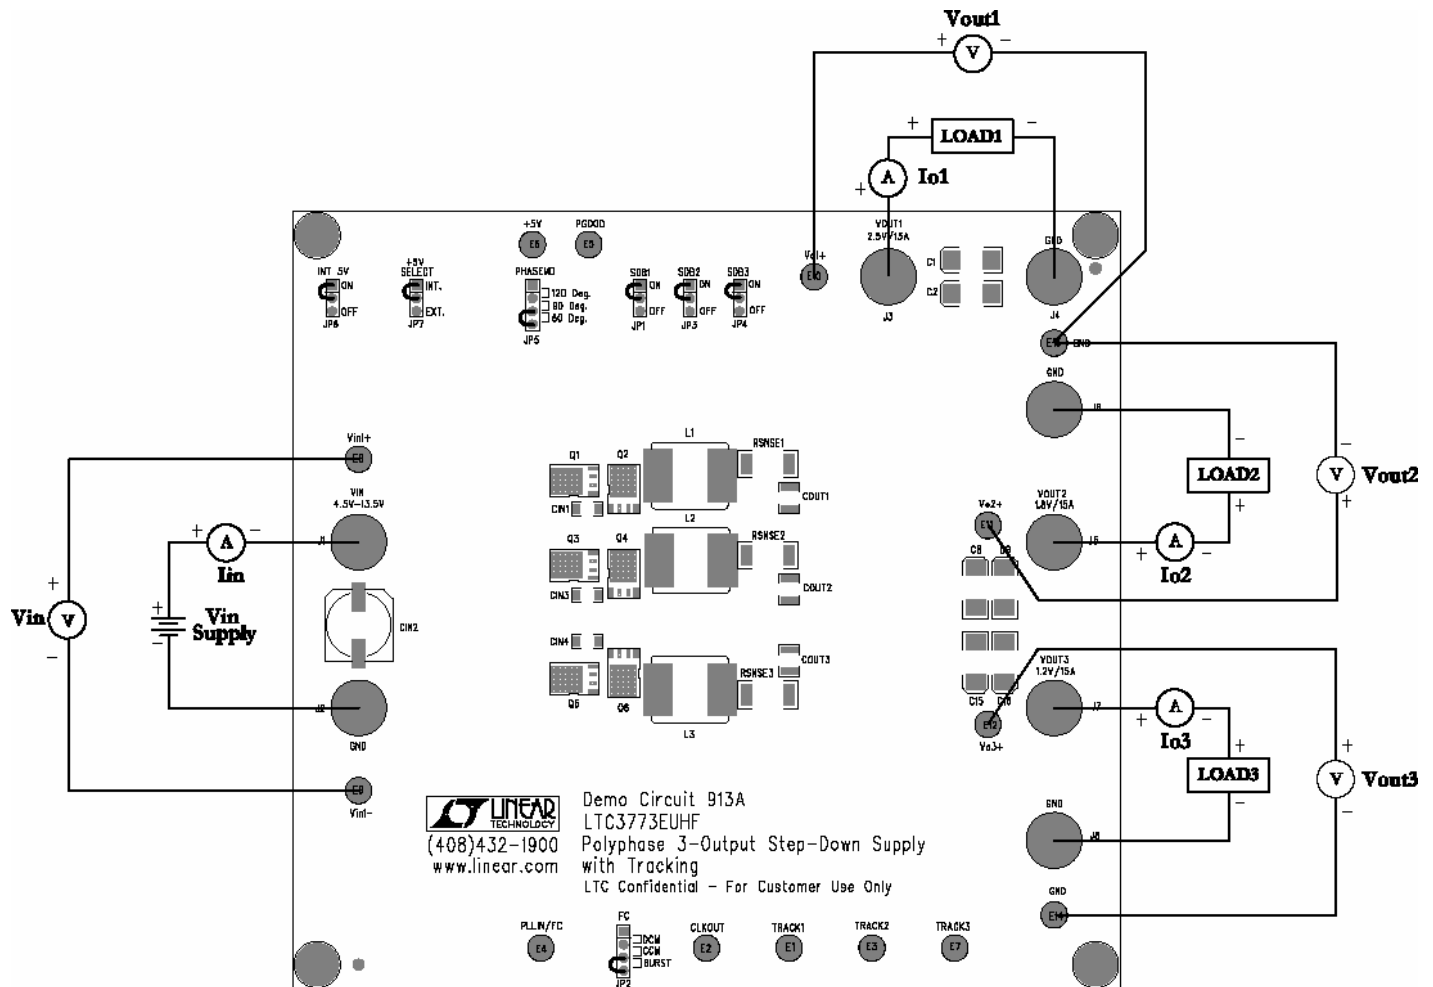

Figure 1. Proper Measurement Equipment Setup
Demonstration circuit 913 is easy to set up to evaluate the performance of the LTC3773EUHF. Refer to Figure 1 for proper measurement equipment setup and follow the procedure below:
2. With power off, connect the input power supply to VIN and GND. Connect the loads between VOUT1, VOUT2, VOUT3 and GND. Preset the load current at 0A (minimum). Refer to Figure 1 for correct test set up.